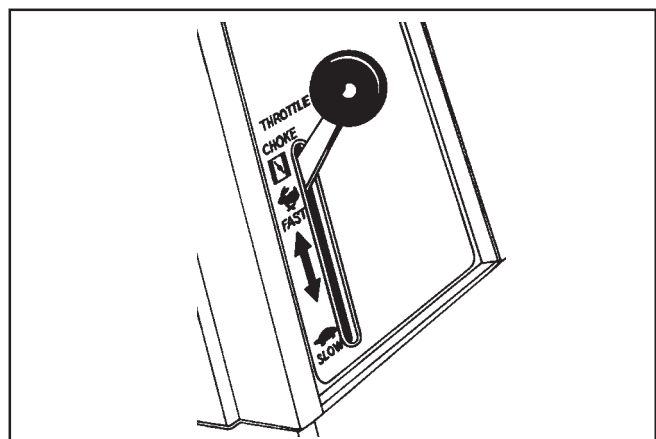

Figure 5. Throttle Position for Starting Engine with Single-Lever Control.
1. a. **For a Single-Lever Throttle/Choke Control:** Place the lever into “**fast/choke on**” position. See Figure 5.